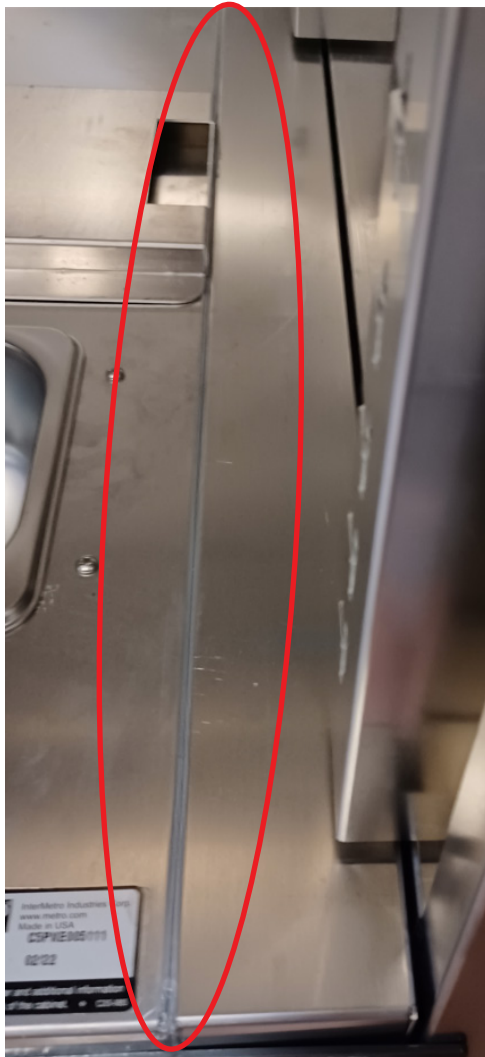

Figure 5
6. Re-apply silicone on seam between the auto-water shelf and the main proofing module. (figure 5)